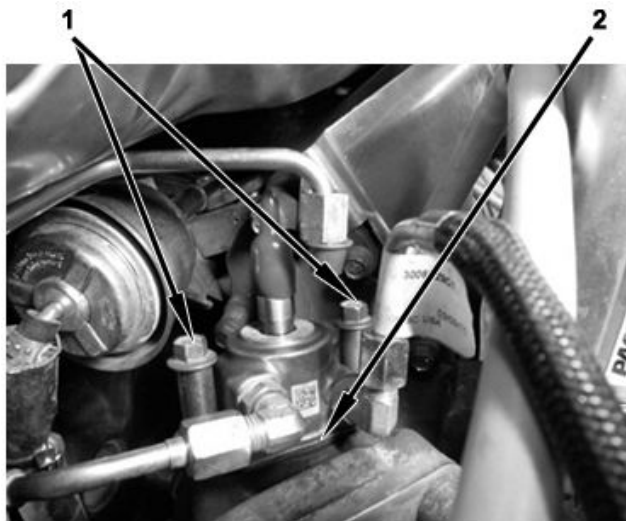

Figure 33. Hydrocarbon Injector (HCI).
13. Install HCI on thermal management valve housing (Figure 33, Item 2) with two M8 x 45 bolts (Figure 33, Item 1) and pre-torque bolts to 97 lb-in (11 N·m).